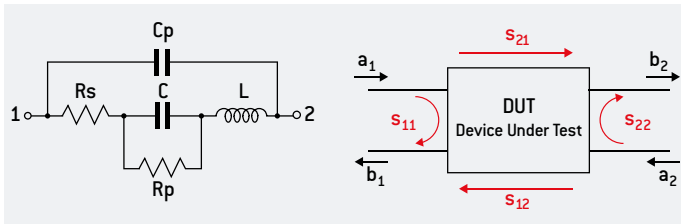
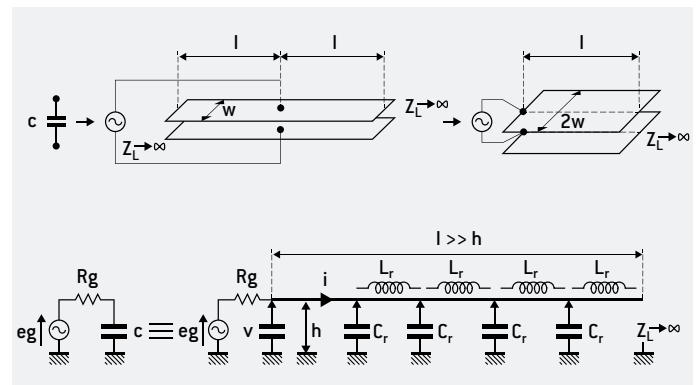
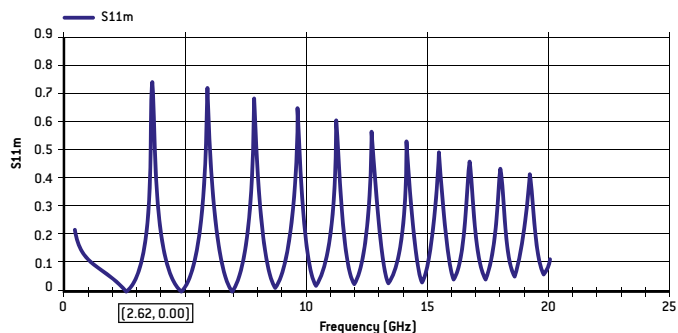
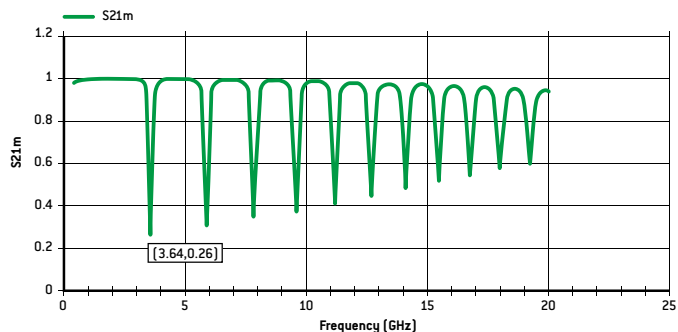

Figure 1: Equivalent Model
Figure 7: Transmission line model of a Single Layer Capacitor
Figure 4: S11curve for a 251SHF150 from EXXELIA ABC software
Figure 5: S21curve for a 251SHF150 from EXXELIA ABC software
The equivalent model for a capacitor is usually defined by the figure 1 where:
The variation of S11 (figure 4) and S21 (figure 5) show the different resonance frequencies SRF [serial resonance frequency] and PRF [parallel resonance frequency]
For example for a 251SHF150 (size 0805 and capacitance 15pf): SRF=2.64 GHz and the ESR at this frequency is 0.200 ohm (figure 5)
- The PRF is associated with the parasitic capacitance Cp defined in figure 1. Assuming that Cp << C, then:
The PRF could be determined by the S21 measurements (figure 5)
The lumped model shown in Fig. 1 explains only the existence of one serial self-resonant frequency and one parallel self-resonant frequency, consequently, the lumped model is unable to explain why real measurements exhibits a double infinity of self-resonant frequencies (see figures 4, 5 & 6).
It is currently admitted [Ref.1] that the lumped model shown in Fig. 1 is convenient only for frequencies that are lower than roughly the half of the first SRF. For frequencies close or above the first SRF, it is mandatory to consider the distributed model or transmission line model [Ref. 1].
This distributed model can be established more easily with the equivalent circuit of a Single Layer Capacitor (SLC) shown in Fig. 7:
After examination of Fig. 7, one can see that a Single Layer Capacitor can be modeled by a transmission line with an open termination that is currently called an "open stub".
Consequently, for predicting and understanding the behavior of a capacitor at frequencies that are close or above the first SRF, the lumped model (shown in Fig. 1) is not applicable and must be replaced by the distributed model or transmission line model (shown in Fig. 7).